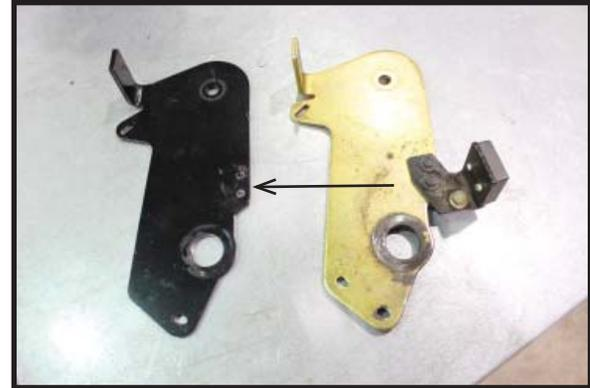

Figure 5
8. Transfer the brake assembly to the new idler bracket using the existing self-tapping bolts. Tighten the bolts securely, being careful not to over tighten them. Figure 5.